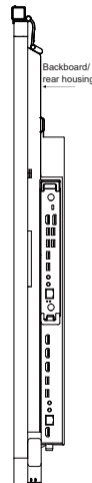

figure 1
Step 1: When the product is made of iron back plate or rear shell, rotate the camera bracket to the corresponding position. The silica gel pad on the bracket is in contact with the top of the product, and the silica gel press on the bracket is in contact with the iron back plate. A magnet is placed inside the silica gel press to adsorb the iron back plate. As shown in figure 1.